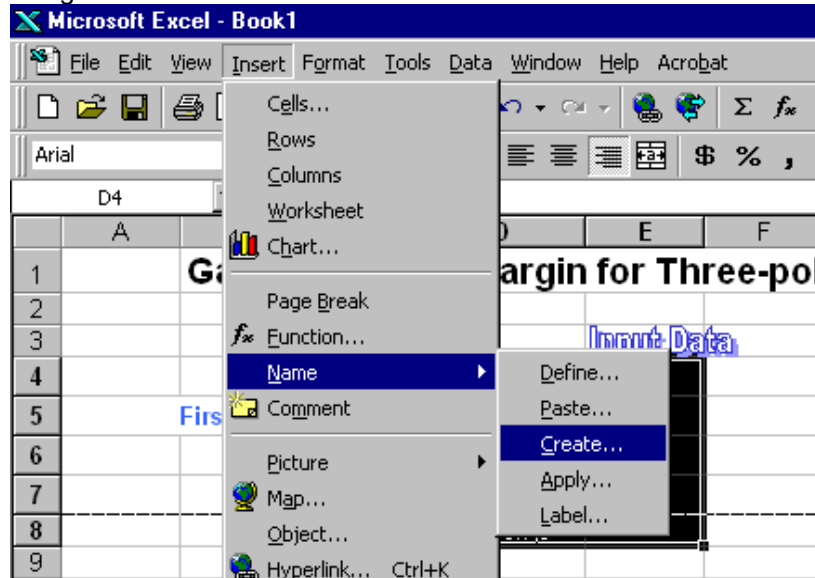

FIGURE 9:
15. We now name the variable cells E4-E9. Select both D4-D9 and E4-E9. On the toolbar select INSERT/NAME/CREATE as shown in Figure 9. The result is that cells E4-E9 are now named after the entries in Cells D4-D9. To check, click on any of the cells E4-E9 and look in the name box just above the Column A label. As you click down the column E4-E9 you will see the names A_o , $f_{p1_}$, $f_{p2_}$, $f_{p3_}$, Feedback_b, and b_{-1} . EXCEL puts an underscore after $f_{p1_}$ to distinguish this variable from the name of the cell FP1. Also, an underscore is placed in Feedback_b because EXCEL cannot use variables with spaces in their names. Likewise, it interprets the power sign ^ as an underscore.